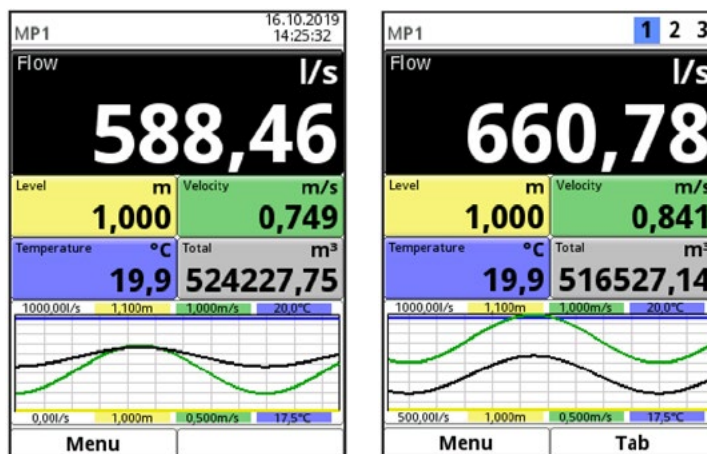

Fig. 38-2 Flow volume section selected (figure on the right side: types T4/TM)
- Date (or 1, 2, 3; see Fig. 38-2)
- Time (or 1, 2, 3; see Fig. 38-2)